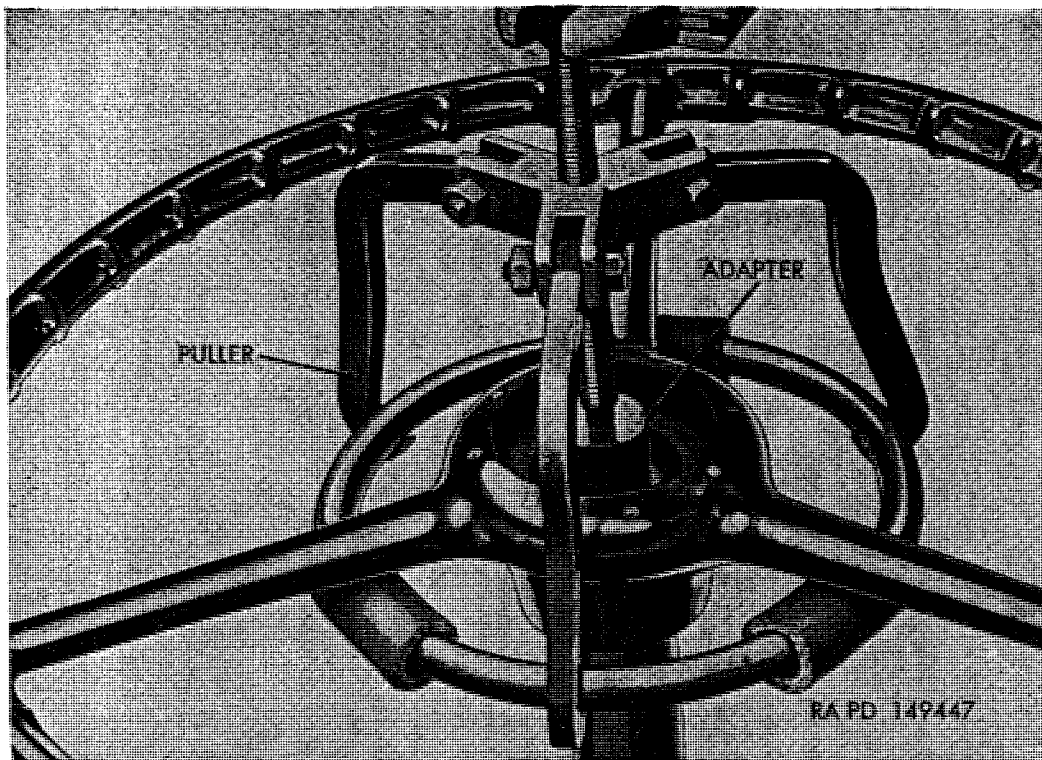

Figure 281. Removing steering wheel, using adapter A7950054 with puller.
(fig. 281)
- (1) Remove horn button and contact from steering wheel (par. 185*d*).
- (2) Remove steering wheel nut.
- (3) Install adapter A7950054 (fig. 281) with a suitable puller at steering wheel. Pull steering wheel from shaft.
- (4) Remove shaft bearing spring and shaft bearing spring seat from steering shaft.